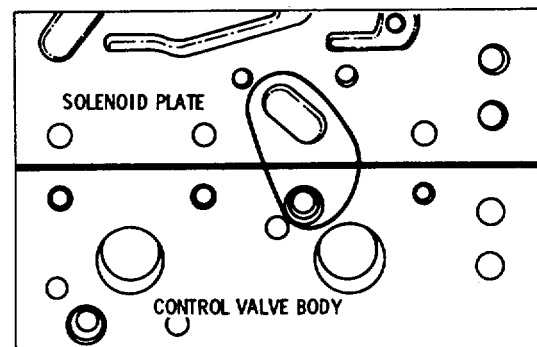

Figure 15-88. Inspection for Battering of the Solenoid Plate and Control Valve Body.
1. Inspect the solenoid plate and control valve body for wear at the passages shown in Figure 15-88. If battering or distortion is found, the solenoid plate should be replaced. The replacement plate should conform to the configuration in Figure 15-88. Any extrusion of metal at the valve body should be honed flat, using a flat stone. Remove any honing debris.